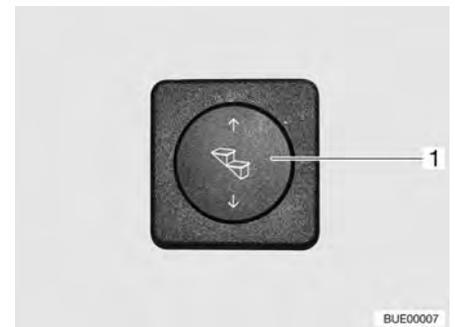

Fig. 9 Operating switch entrance step
- Press the rocker switch (Fig. 9,1) down and hold it pressed (at least 3 seconds) until the entrance step has extended completely.
- Press the rocker switch (Fig. 9,1) up until the entrance step has retracted completely.